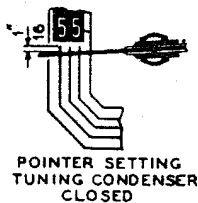

FIG. 3.—Dial Pointer Calibration.
- 2 Holding the tuning condenser in this position, turn the pointer until it is $\frac{1}{16}$ of an inch below the three lines of the scale at the 550 K.C. end. (See Fig. 3.) This is the correct position of pointer at maximum capacity of tuning condenser.